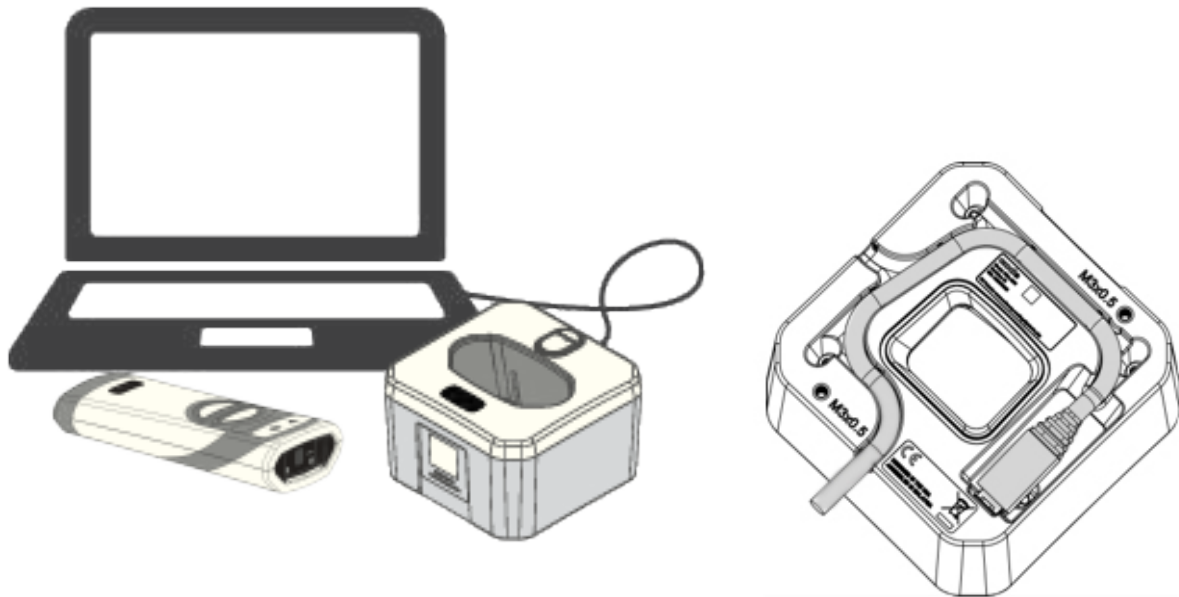

Figure 7 Connect Charging Station
5.8.1 Insert the micro USB connector of the cable to the micro USB port on the bottom of the charging station (Figure 7).